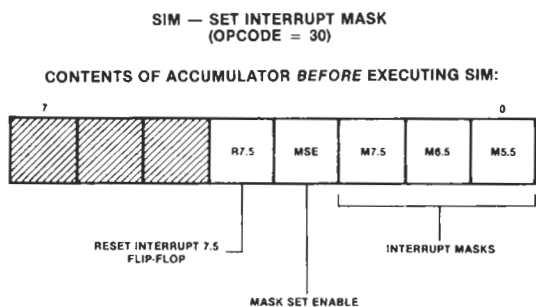
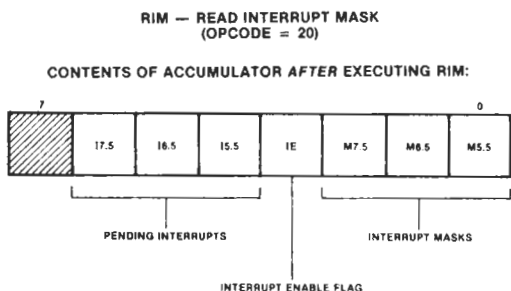

FIGURE 2-4 INTERRUPT MASKS SET USING SIM INSTRUCTION
FIGURE 2-5 RIM — READ INTERRUPT MASK
instruction, which enables or disables these interrupts by clearing or setting corresponding mask flags based on data in the accumulator. (See Figure 2-4.) You may read the status of the interrupt mask previously set by performing a RIM instruction. Its execution loads into the accumulator the following information. (See Figure 2-5.)
- The 8085A executes a SIM instruction, with accumulator bit 4 previously set to 1. (See Figure 2-4.)